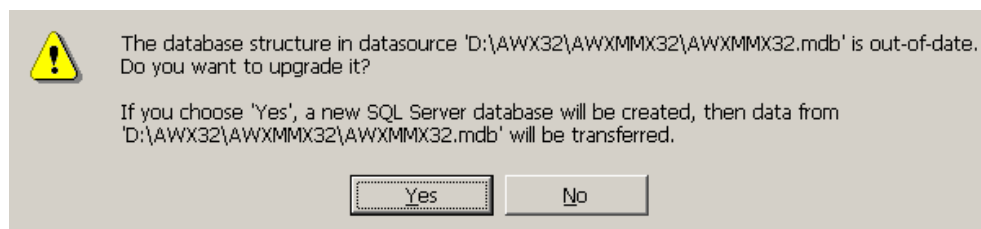

Figure 1.30. Upgrade Notice
3. Click **Yes** to continue, as shown in **Figure 1.30**.